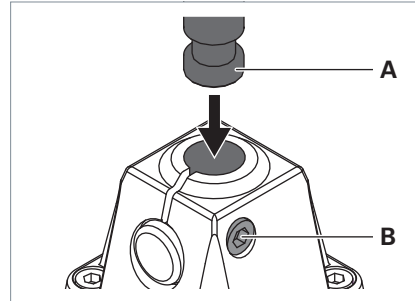

Fig. 3: Mounting the luminaire to the fastening element.
- Unscrew the screw **B** from the fastening element, see Fig. 3.